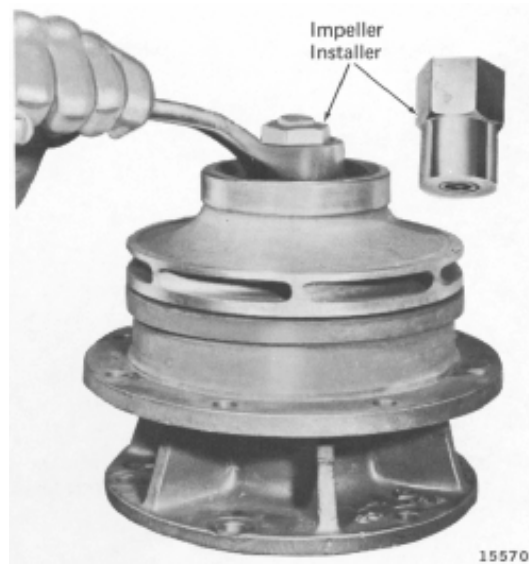

Fig. 10-12 - Installing Pump Impeller
1. Fig. 10-12 shows the impeller installer being used to assemble the impeller to the drive shaft housing. The threaded bushing is screwed on pump shaft threads and then by turning outer portion of installer tool, the impeller is pressed into position. Care must be taken to start the impeller straight on the